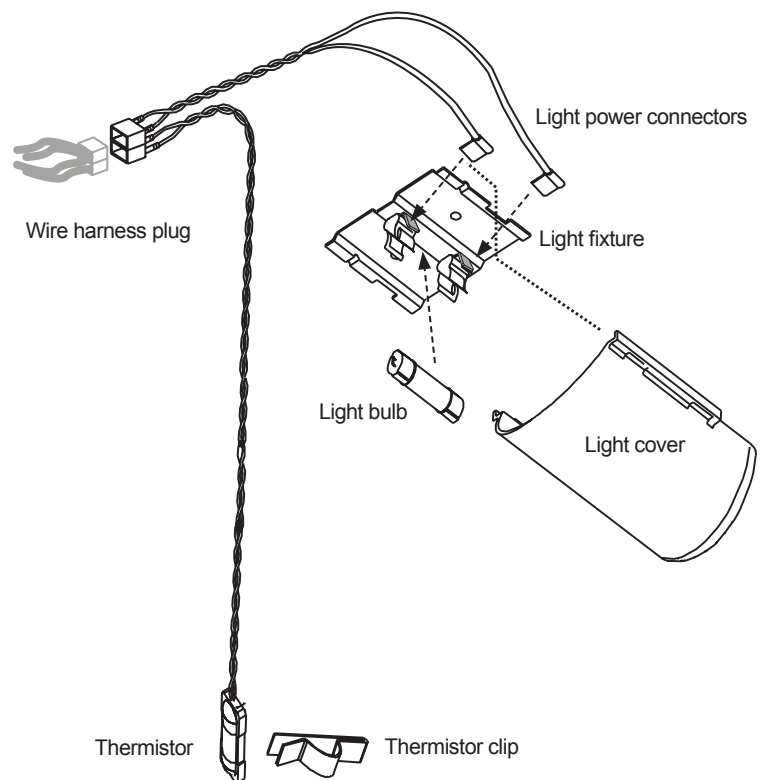

Figure 6-4. —Light / thermistor assembly components.
5. Disconnect the light wires from the light fixture. See Figure 6-4.
6. Connect the replacement light/thermistor assembly light wires to the light fixture. See Figure 6-4.